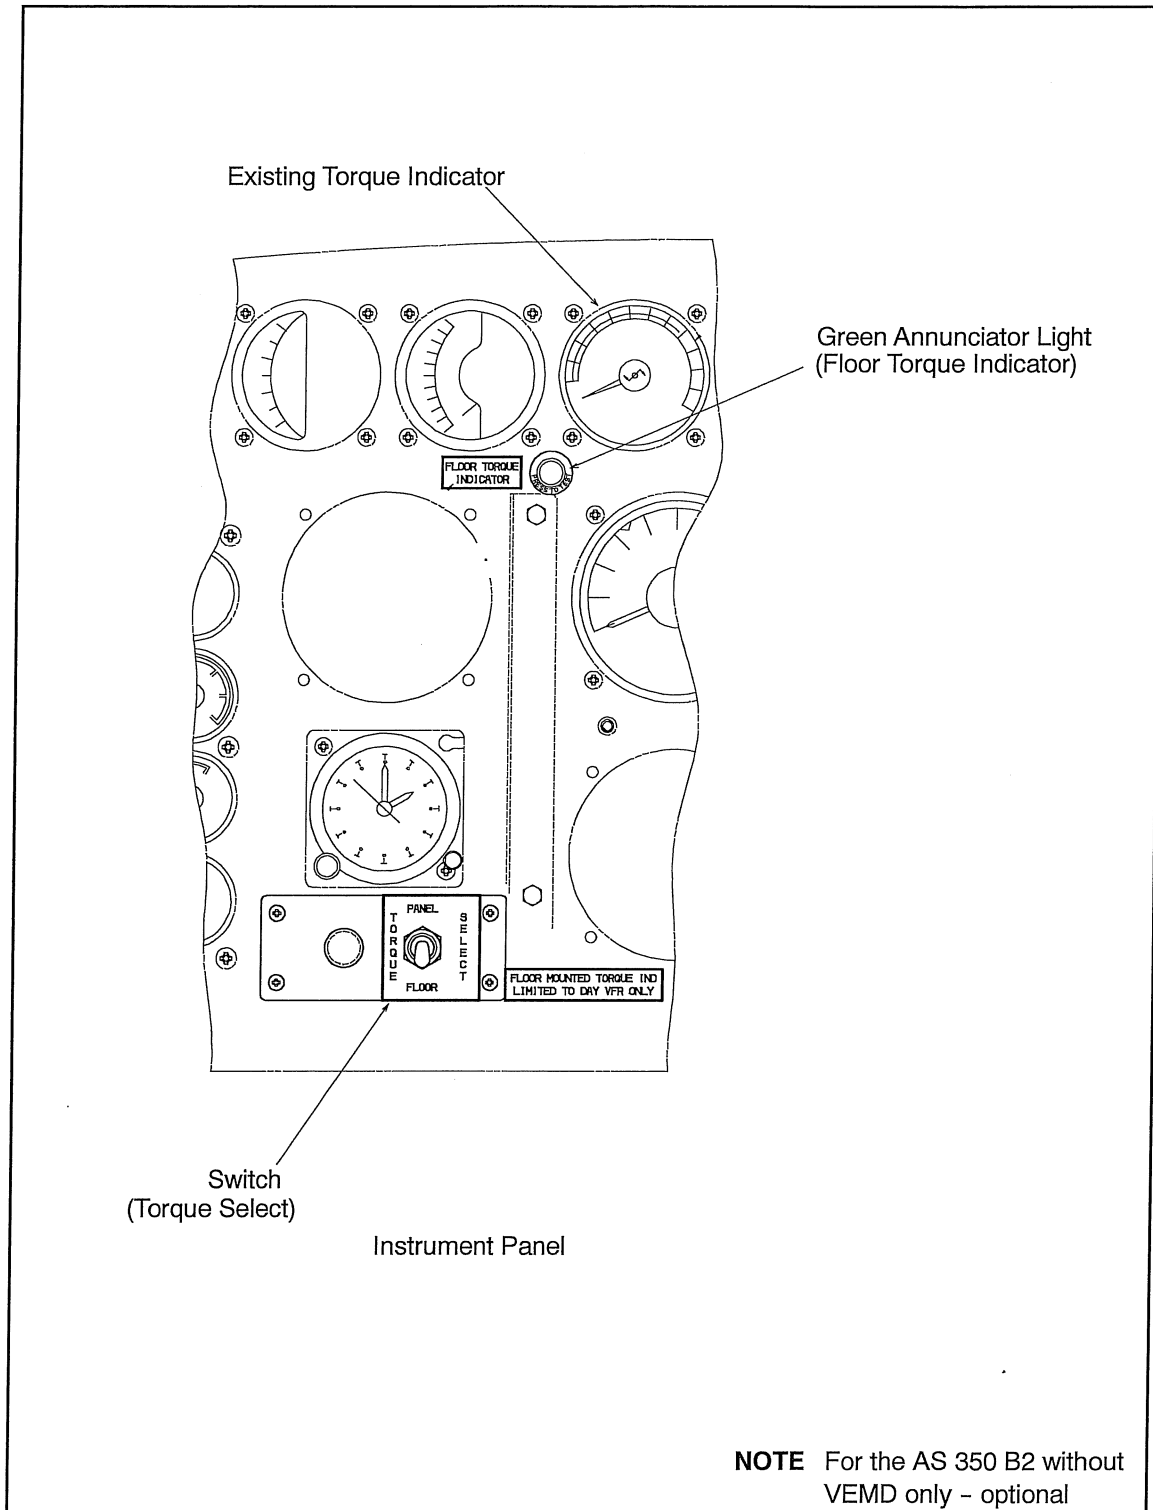

Figure 2 Switch and Annunciator locations for Torque Indicator Option
Location: Located adjacent to the torque select switch on the Instrument Panel in clear view of pilot. Refer to Figure 2.
Location: Located adjacent to the torque select switch on the Instrument Panel in clear view of pilot. Refer to Figures 2 or 3.
Location: Located adjacent to annunciator light on the Instrument Panel in clear view of pilot. Refer to Figures 2 or 3.
(Toggle switch on instrument panel) (Refer to Figures 2 or 3)
- 1) Floor Mounted Torque Indicator (if installed, refer to Figure 2)